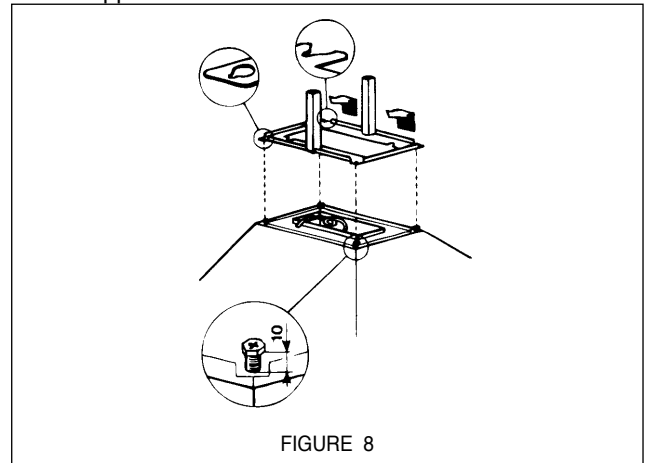

FIGURE 8
4. The canopy attaches to the support by four bolts located next to the duct exhaust opening. Loosen the four bolts so that there is approximately 1/4" space between the bolt head and the canopy. FIGURE 8 shows how the canopy attaches to the support.